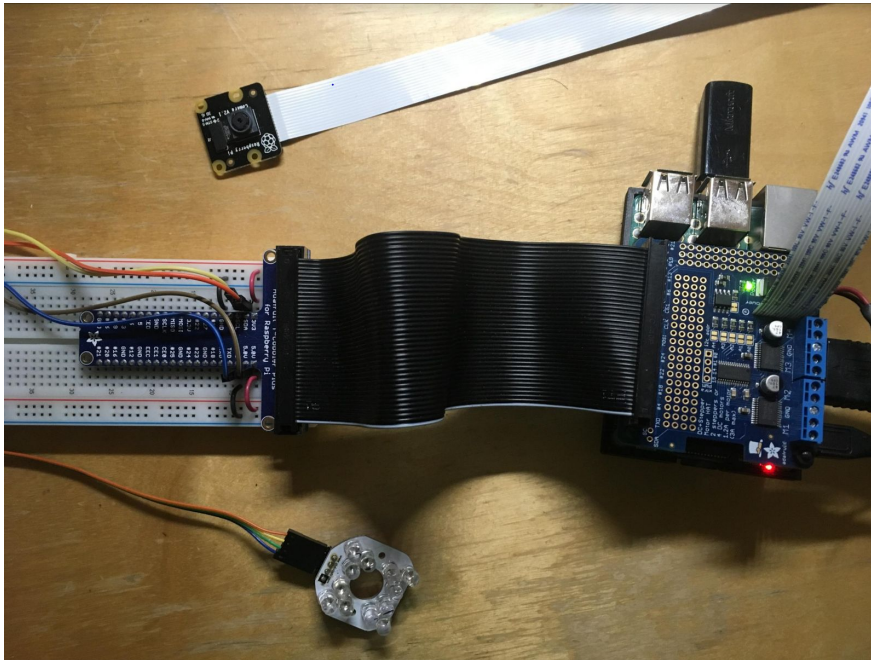

Figure 2: The vision system is consisted of a Raspberry Pi, the PCB, a Pi Camera, an LED/infrared lightsource, and a motor
2. The hardware for the vision system is built using a Raspberry Pi, a Raspberry Pi camera, and other supporting materials (LED/infrared light, motors, etc. - see Figure 2 - appendix) This system will take pictures of individual objects and will use the model loaded in the Raspberry Pi to predict the class of material it belongs to. If the prediction probability is greater than a certain threshold (currently set at .98), the object will be classified and stored in a database then moved into an appropriate bin. If not, the images of the object will be sent to a different database for further processing. A prototype of the system was built by our mentor and was improved upon with some modification from our team.
3. Images of objects that are not classified in step (2) will be stored in the cloud storage Amazon S3, and will be crowd-sourced via the RecycleAI website to identify the correct label. These labeled images will be added into the original image database, and the model will be re-trained with these images in step(1).